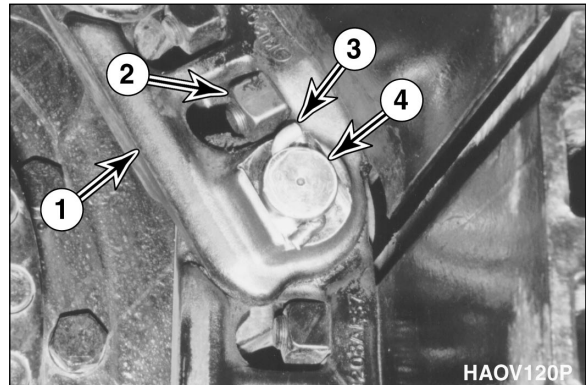

Figure 15
3. Move machine until master link (1, Figure 15) is positioned at approximately 10 o'clock from top position on travel reduction gearbox.
4. Remove four nuts and bolts (2, Figure 15) holding shoe to link. Remove enough shoes to make access to lock pin easier.
NOTE: *Support track shoes with blocking so that when master pin (4, Figure 15) is removed track will not fall.*
5. Straighten lock pin (3, Figure 15) and remove it from master pin (4). Discard lock pin.